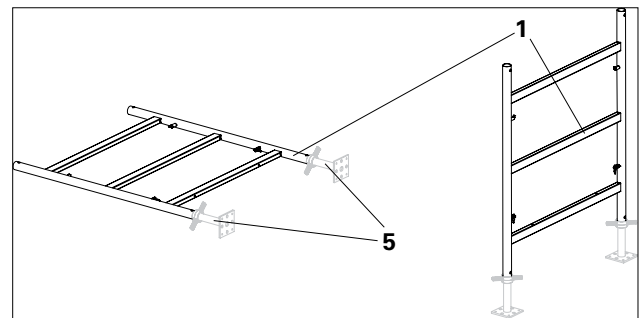

Fig. A1.02
2. Insert one PD 5 frame (1) respectively into two Base Spindles TR 48-75/55 (5) (Fig. A1.02).